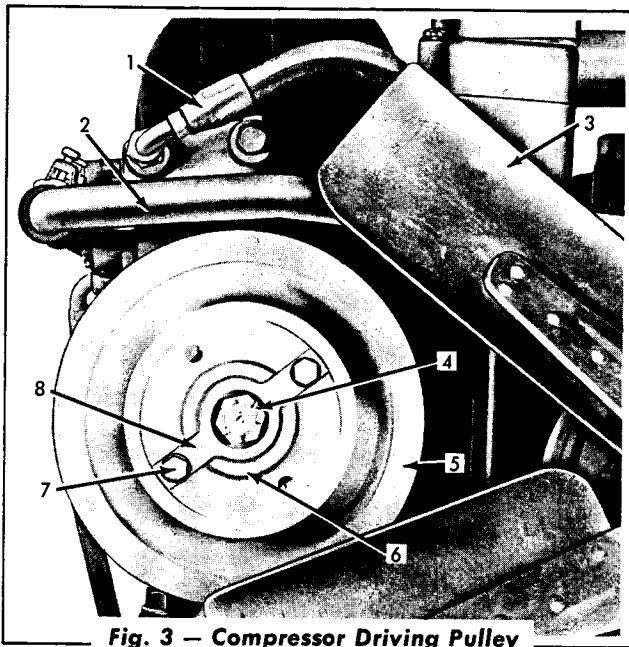

Fig. 3 - Compressor Driving Pulley
3. Remove the cotter pin and the castle nut that secures the air compressor driving pulley on the compressor crankshaft (Fig. 3). Remove the pulley and the "Woodruff" key.